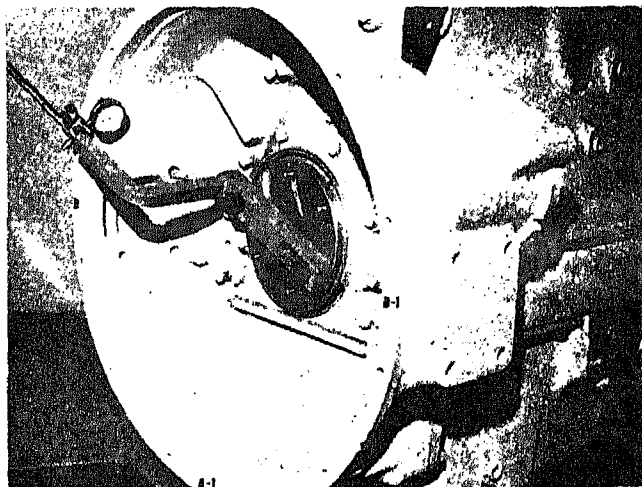

Fig. 14-1-57. Indicating flywheel housing bore
1. Attach indicator gauge to crankshaft flange, Fig. 14-1-57.